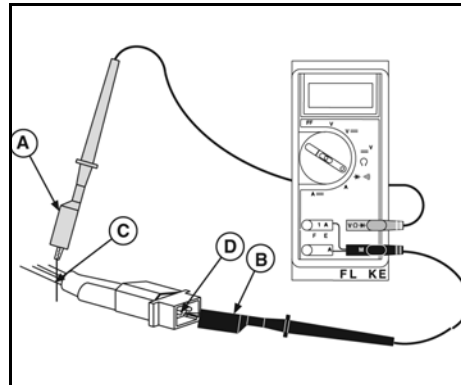

Figure 22
- Insert RED test lead (A, Figure 22) into the V  $\Omega$  receptacle and set the rotary switch to Diode position.
- Insert BLACK test lead (B) into the COM receptacle in the meter.
- Attach RED test lead clip to point (C) and Black test lead clip to point (D). (It may be necessary to pierce wire with a pin as shown.)